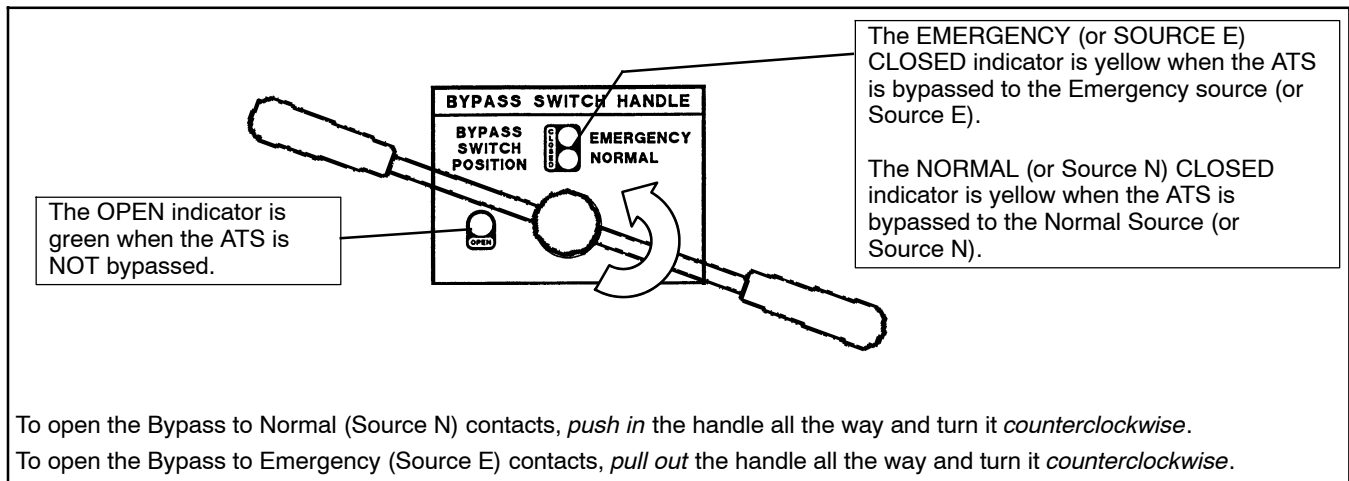
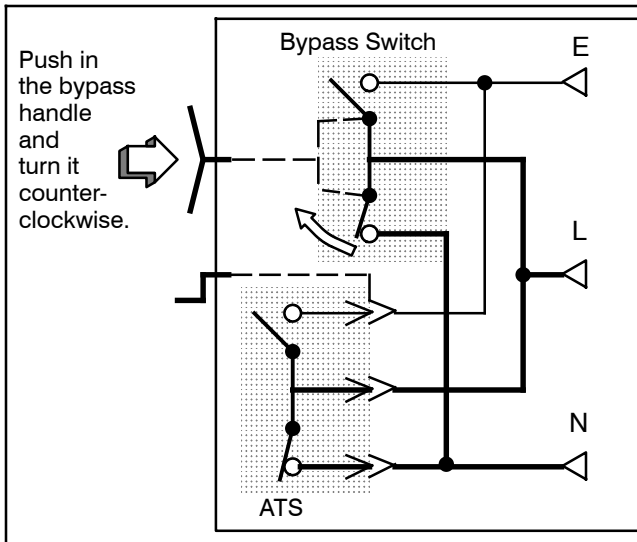

Figure 7-63 Bypass Handle and Position Indicators
Figure 7-64 Opening Bypass to Normal Contacts
- a. **If the load is connected to the NORMAL source**, push in the bypass handle and then turn it counterclockwise until the bypass switch position indicator turns green, showing that the bypass contacts are open. See Figure 7-64 and Figure 7-63. The Not in Auto light should be off.
3. Turn the bypass handle counterclockwise to OPEN. Then bypass to the other source. See Figure 7-63.